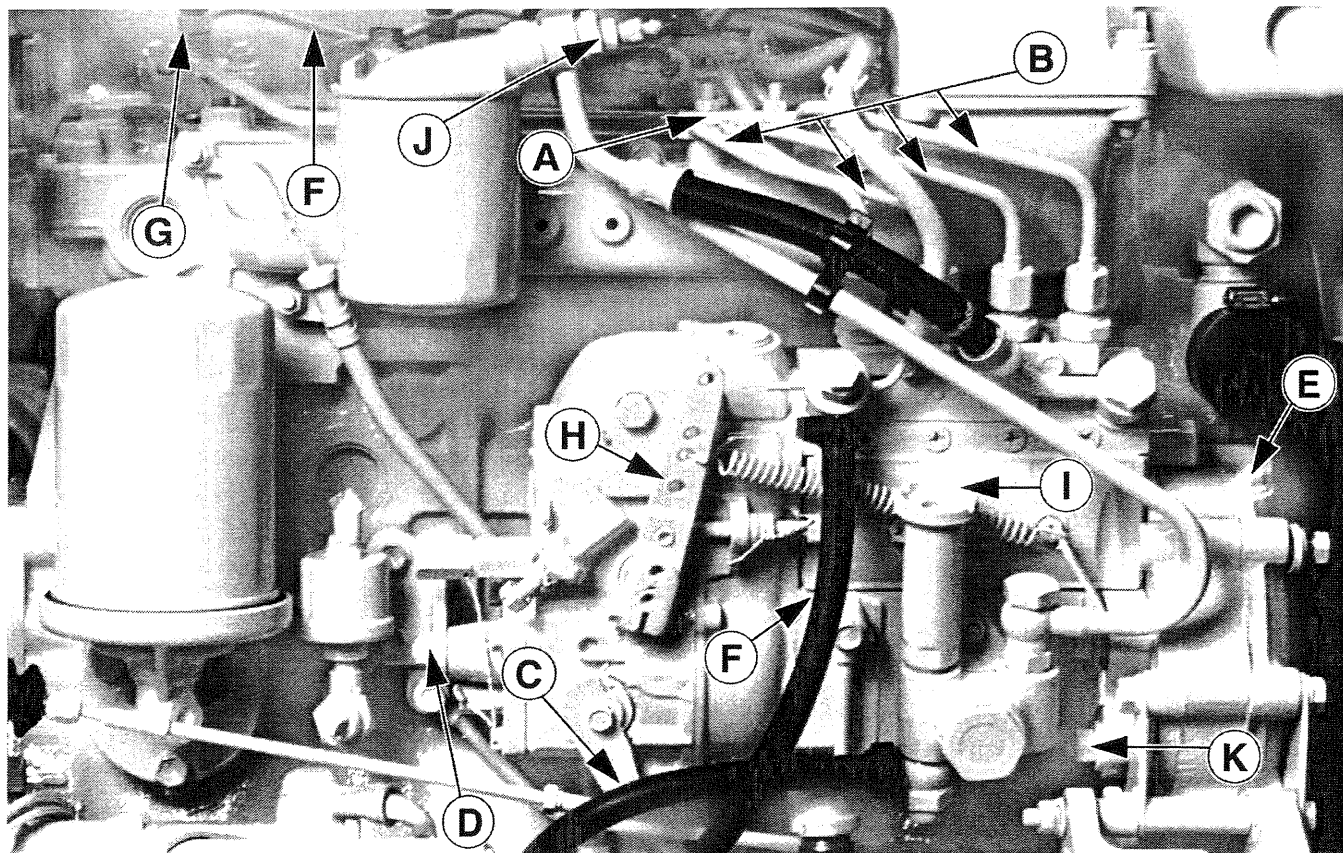

Figure 13: Fuel System
- b. Relieve high pressure in the fuel lines by loosening the delivery line flare nuts at each injector (Figure 13-L).
- c. Remove delivery lines (Figure 13-C) by disconnecting from injectors and injection pump. Remove all lines as an assembly; do not remove the spacers. Cover the ends of the lines, the injector inlets and injection pump outlets to keep dirt out.
- d. Remove the return line retaining bolts (Figure 13-G), washers, and return line.
- e. Loosen the injector retaining nuts equally (Figure 13-G), a little at a time. Remove the injector.
- f. Remove the injector seat (Figure 13-G). Cover the holes to prevent debris from entering the cylinders.
- c. Reinstall injection lines (Figure 13-B). Tighten flare nuts (Figure 13-L) at injection pump to 18.2 - 25.3 ft/lbs (2.5 - 3.5 k/gm). Leave the lines loose at injectors for bleeding.
- d. Bleed the injection lines (Figure 13-B). Crank the engine to fill the lines. Tighten flare nuts at injectors to 18.2 - 25.3 ft/lbs (2.5 - 3.5 k/gm).
- b. Remove the injection lines (Figure 13-B) from the pump and injectors. Remove all lines as an assembly. Do not remove the spacers. Cover the ends of the lines, the injector inlets, and the injection pump outlets to keep dirt out of the injectors, lines, and pump.
- c. Remove the pump support bracket (Figure 13-D) on rear of pump.
- d. Remove the plug (Figure 13-E) from the timing case cover. Use an indelible marker to put a mark on the injection pump gear through the plug hole. You will use this mark to align the pump during reassembly. Do not rotate the crankshaft after marking.
- e. Remove the 4 mounting nuts (Figure 13-K). Two (2) are found on the back side of the injection pump, and two (2) are found on the front side.
- c. Pressurize the system with the hand primer pump (Figure 13-I).